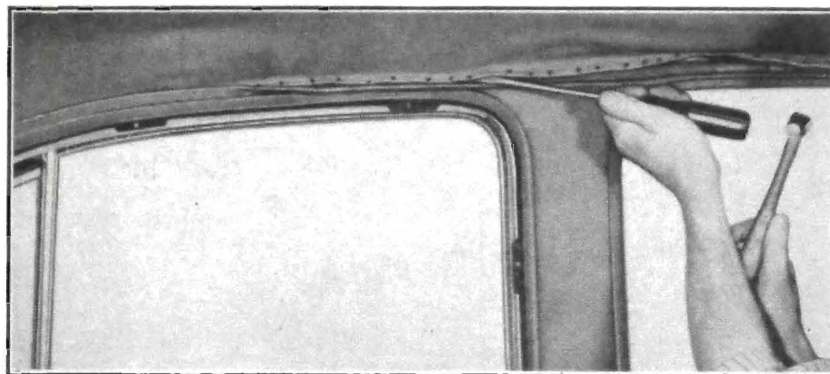

Fig. 1-77. Headlining—Attachment at Side Roof Rail
3. With the fingers, bend down the wire-on molding along the side roof rails and remove tacks holding headlining to side rails. See Fig. 1-77.